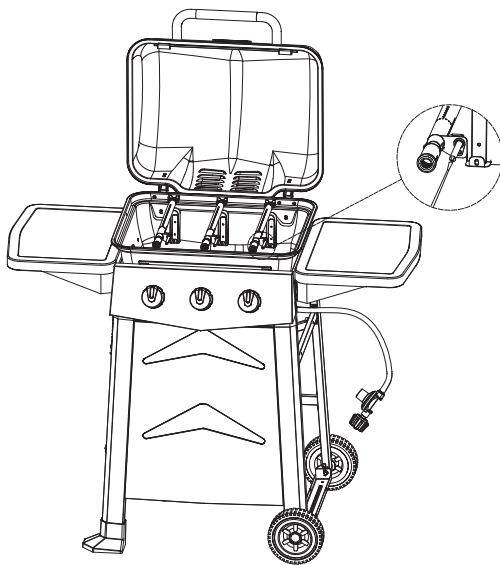

Figure 2
5. Detach ignition wire from electrode in Figure 2.